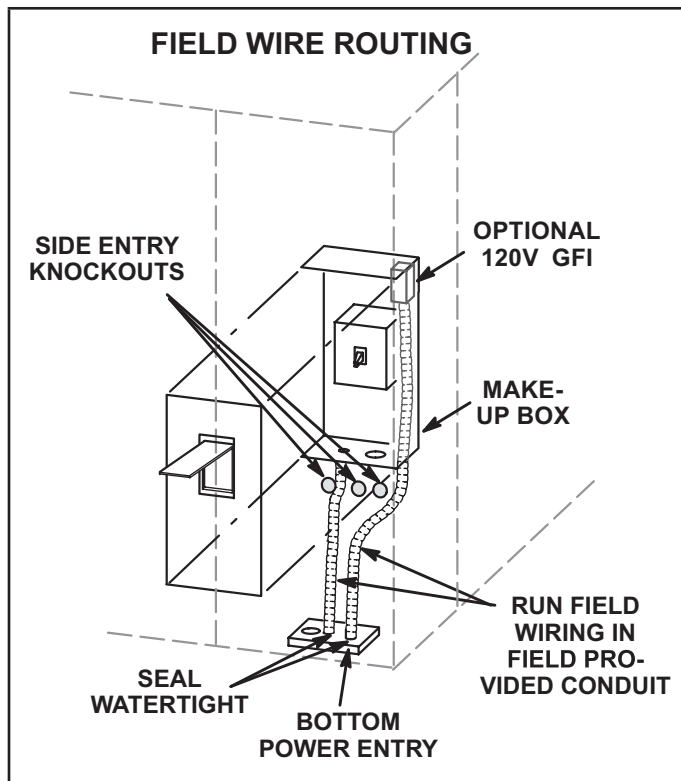

FIGURE 8
Route field wiring in conduit between bottom power entry disconnect. See FIGURE 8. This does not supersede local codes or authorities having jurisdiction.
- 3 - Connect separate 120v wiring to optional GFCI outlet pigtails. Route field wiring in conduit between bottom power entry and GFCI. See FIGURE 8.